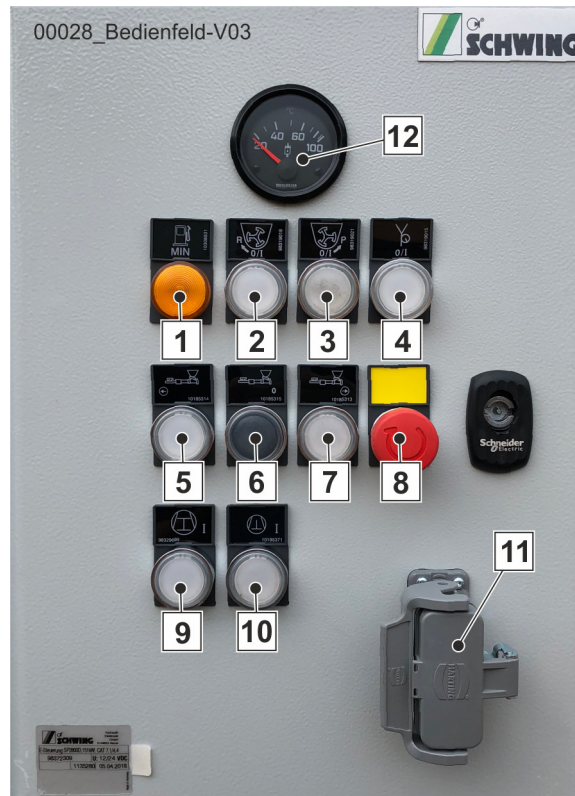

Fig. 80 Control panel
- Insert the plug of the remote control cable into the power outlet (11) (**Fig. 80**) and secure it.
In the event that the machine has to be operated during an emergency or test operation, a bypass plug has to be inserted into the power outlet (11) (**Fig. 80**).